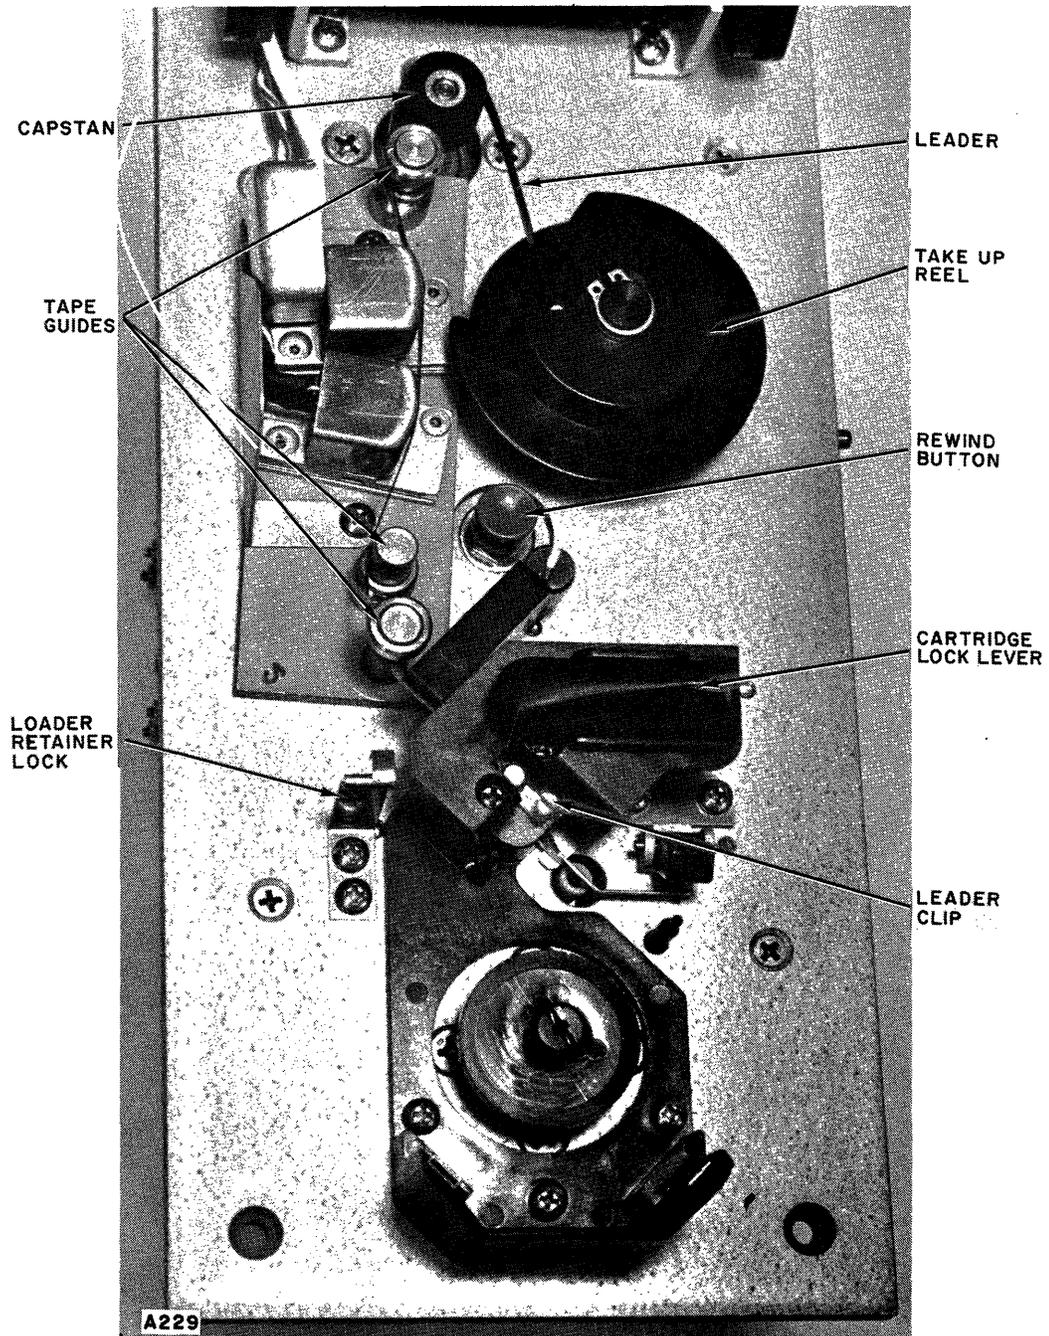

Figure 4-2. Series 1500 Tape Drive
- (3) Now that the loader is in the upright position, take time to become familiar with the various components on the tape drive, as shown in figure 4-2. Note the threading path of the leader.